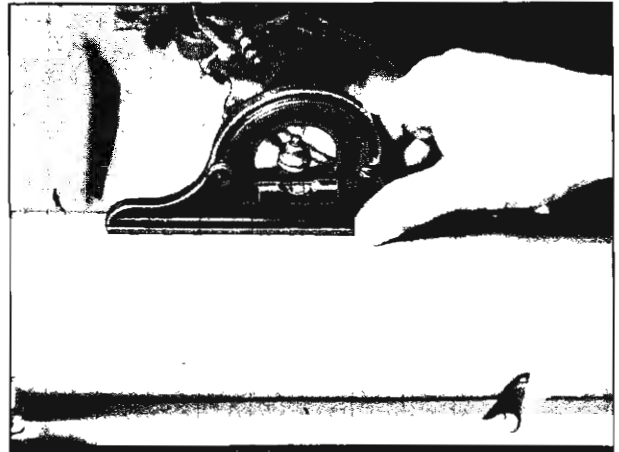

Fig. 47—Measuring Engine Angle
3. Before checking the driveline angles, make a visual check of the transmission support crossmember. For correct assembly, two conditions must exist: (1) the top (upper) surface of this crossmember is tapered, i.e., not parallel to bottom plane of crossmember. This taper must be toward the rear of the vehicle. (2) The crossmember to frame attaching bolts must be in the proper holes. At the point on the frame bracket where the crossmember attaches, there are two holes, one above the other. On all Three-speed and Turbo-glide equipped vehicles, the upper holes must be used, and for the Powerglide and Overdrive equipped vehicles, the lower holes must be utilized.
4. By the use of a bubble protractor, measure and record the following angles: The angle of the engine crankshaft (equivalent to transmission output shaft) by laying the protractor on the bottom of the oil filter on V-8's or on the oil pan side rail on L-6's (for greatest accuracy, measure this angle on the engine valve rocker cover (fig. 47); the front propeller shaft (fig. 48); the rear propeller shaft (fig. 49); and the axle pinion shaft (fig. 50).